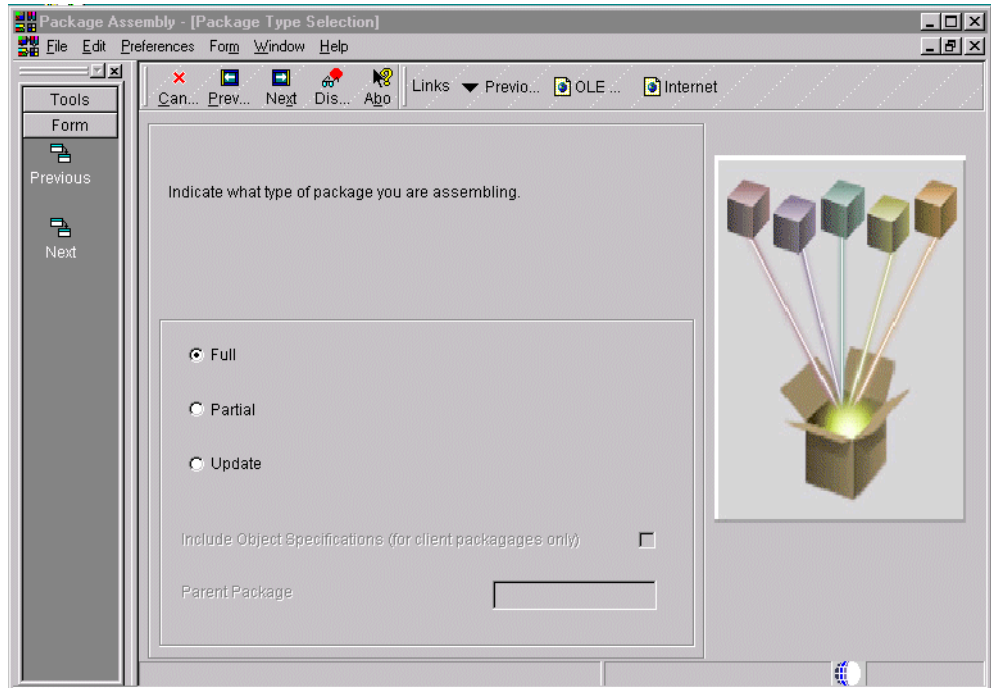

Figure 143. Package Type Selection form
4. Click **Next**. The Package Type Selection form appears (Figure 143).